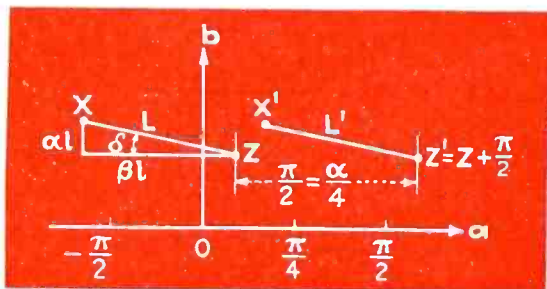

FIG. 3—Lines L and L' , constructed as indicated in text, enable determination of voltage, current and impedance for any position on the line
The expression $(Z + \gamma'y)$ appearing on the right side of Eq. (5) represents a straight line, L , in our coordinate system originating at point Z (in Fig. 3) where $y = 0$ (load end) and extending up to point X where $y = l$ (feeder end of the line).
which lies 90 deg. or $\frac{1}{2} \pi$ radians to the right of point Z , in Fig. 3.